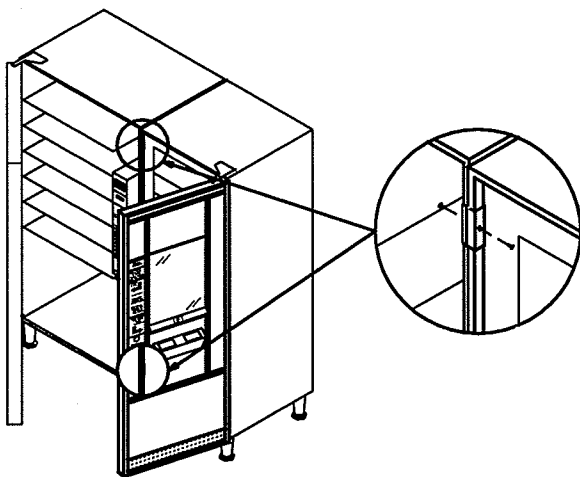

Figure 2. Connecting Menu Mart II to Host
1. Connect both machines together using the two (2) Tie Plates (P/N 1211234) furnished in the service packet. See Figure 2.